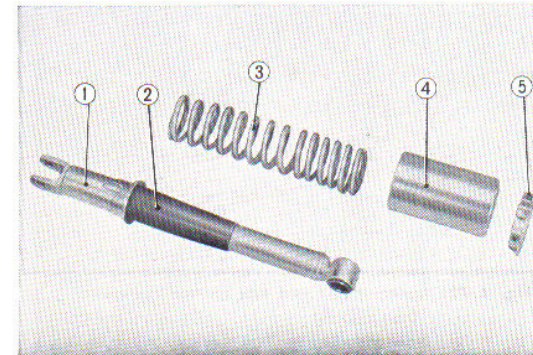

Fig. 4.69 Component parts of rear cushion
3. Disassembly of the rear cushion damper is not necessary. (Fig. 4.69)